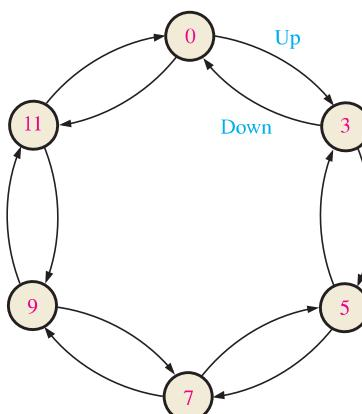

FIGURE 9–75
23. Design a binary counter with the sequence shown in the state diagram of Figure 9–75.